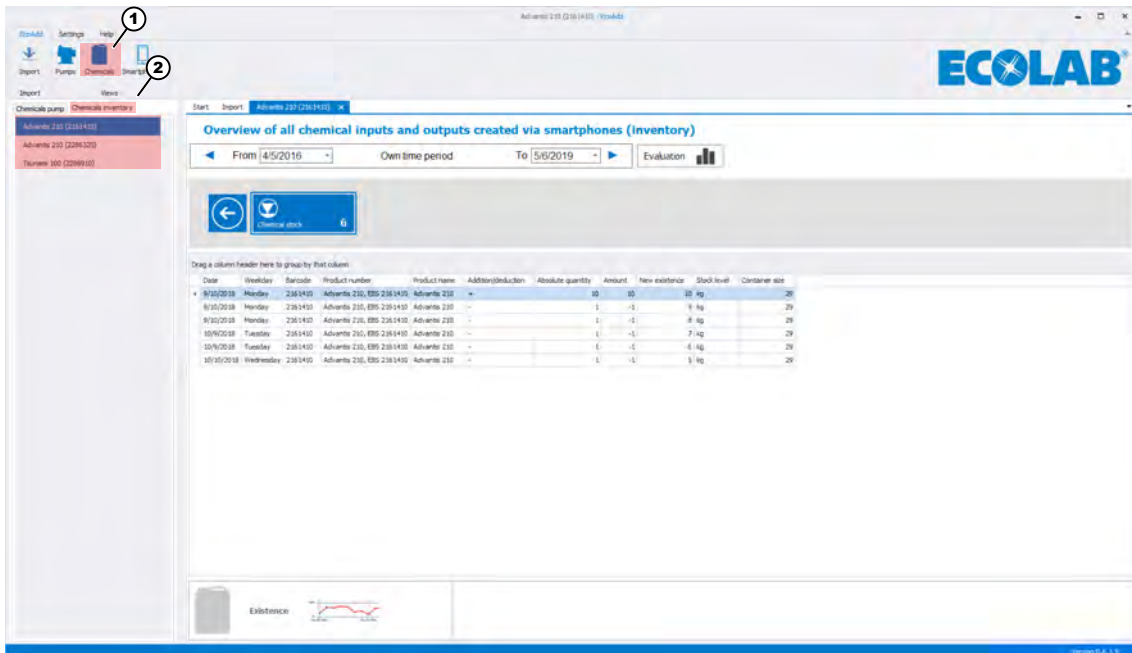

Fig. 37: Chemicals stock management using the smartphone app: 'EcoAPP'
The chemicals displayed on the [Chemicals inventory] (Fig. 37, item 2) tab refer to an 'Inventory' created using the Ecolab 'EcoAPP' and can be used for 'Chemical stock management'.